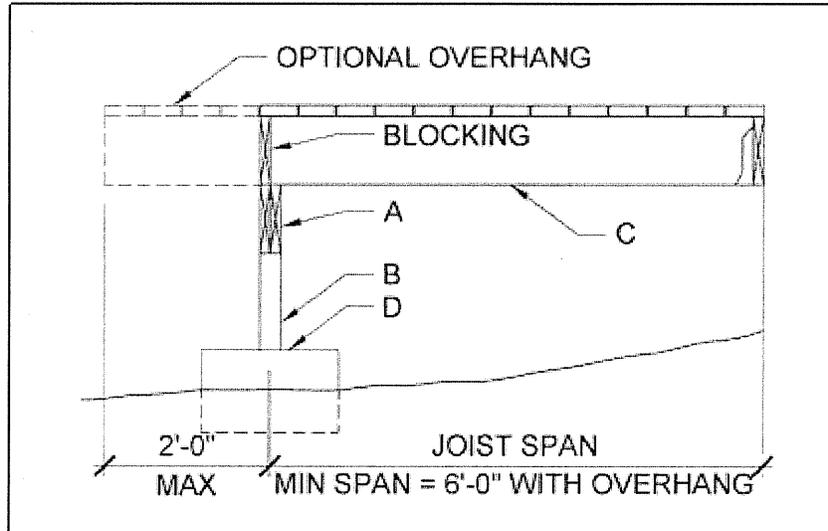

Figure 1 - Joist Span – Deck Attached At House
4. Determine how big and what configuration you want your deck. Note: The drawings contained in this document may indicate square or rectangular configurations; however, configurations can be diamond, trapezoidal, or other shapes as long as the longest spans are used to determine beam, joist, and footing sizes. The deck can have up to a two-foot maximum joist and/or beam overhang. See Figures 1, 2, and 3. (Beams are identified as item "A", posts as item "B", joists as item "C," and footings as item "D.") **It is recommended that you first determine the joist span "C," and then note what beam and footing sizes you will need.**
The span of a joist is measured from the centerline of bearing at one end of the joist to the centerline of bearing at the other and does not include overhangs. Maximum joist span lengths are noted in Table A. See Figures 1 and 2 for joist span types.